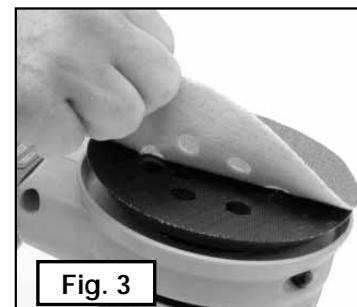

Fig. 3
4. With the other hand, align the holes and place the disc directly on top of the pad (Fig. 3).